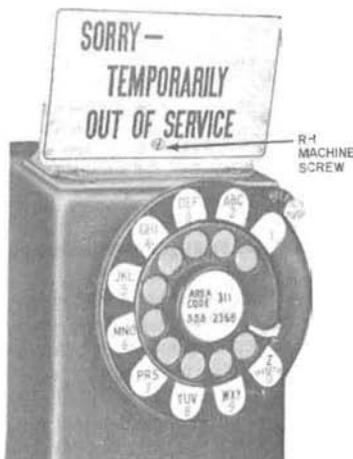

Fig. 20—KS-7991 Sign in Place Over Coin Gauge
- 4.21 If a coin station is not ready for service when installation work is completed, place KS-7991 sign (Fig. 20 and 21) or E-4914 Form (Fig. 22) on coin gauge so that customers will not deposit coins.
- 4.23 The KS-7991 sign must be ordered separately and is mounted by means of a No. 8-32 by 3/4 inch RH machine screw and a self retained speed nut, Tinnerman C-6724-832-373 (Fig. 20 and 21).